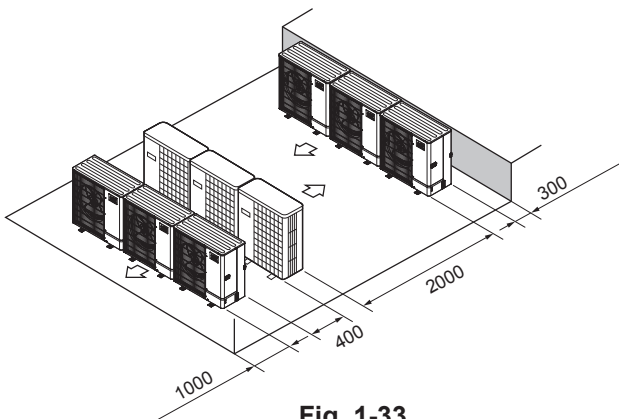

Fig. 1-33
- ⑥ Multiple parallel unit arrangement (Fig. 1-33)